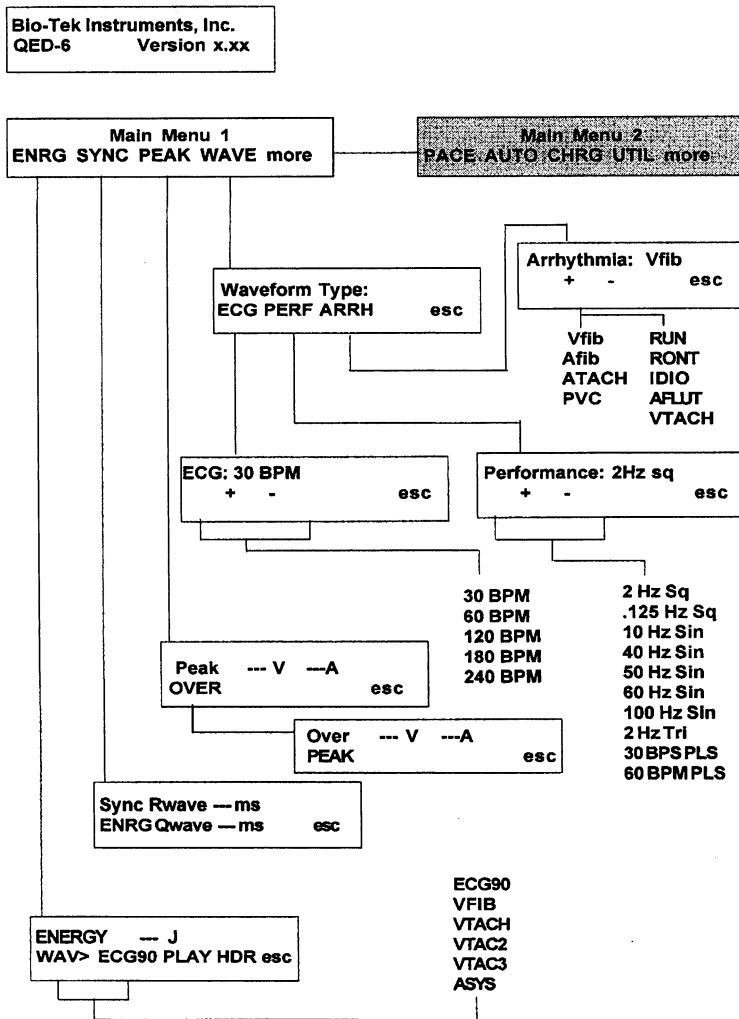

Figure 2.2.1. QED-6 Menu Structure (Main Menu 1)
- 3) Press the soft key corresponding to **VFIB** (refer to *Figures 2.2.1* and *2.2.2* for an overview of the menu functions). A ventricular fibrillation waveform will be simulated by the QED-6 through the ECG jacks and paddle plates. Once a discharge is complete, the QED-6 will output a 90 BPM Normal Sinus Rhythm.